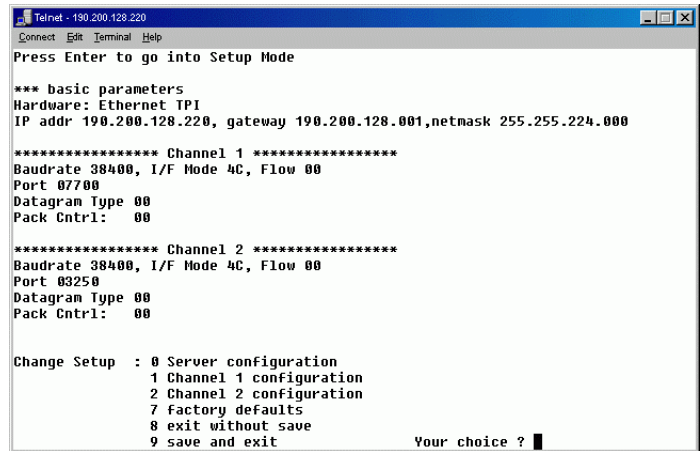

Figure 13: Telnet session
9. If you pressed [ENTER] within 5 seconds, then you should see the following screen (See Figure 13).
14. You will be prompted to change the TELNET password, press [N] for the default of "No". This screen will now show the Setup Mode screen you saw previously in Figure 13.